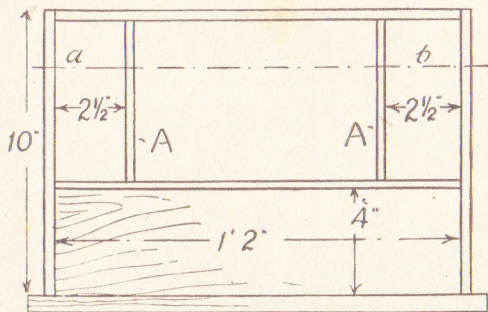
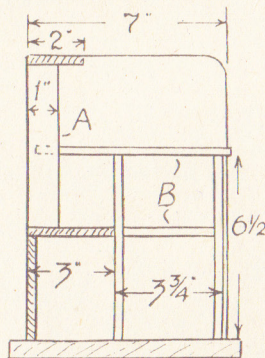

Fig. 1—Plan of the front
Fig. 2—End section
Fig. 1 is a front elevation, Fig. 2 a side section, with dimensions. For economy's sake it is, perhaps, better to use the $\frac{3}{4}$ in. deal mentioned for the shop sides and top cross piece. Cut these to dimensions given, and round off the rear top corners. At the spots where the counter will be nailed later, square lines across as a guide, to get the counter level, and not on the skew.
Inside the shop a set of shelves should be made and set up each side. These are seen in Fig. 2, and consist of two pieces (B) fixed to a pair of vertical uprights. The width of top shelf (B) is just 2 $\frac{1}{2}$ ins., so that its further end can fit between the vertical front strips. (A).
Cut the side parts, then the middle shelf to height and width in Fig. 2, and glue each side to butt up against the counter. The top shelf (B) is cut 7 ins. long, but is to be nailed on top later.